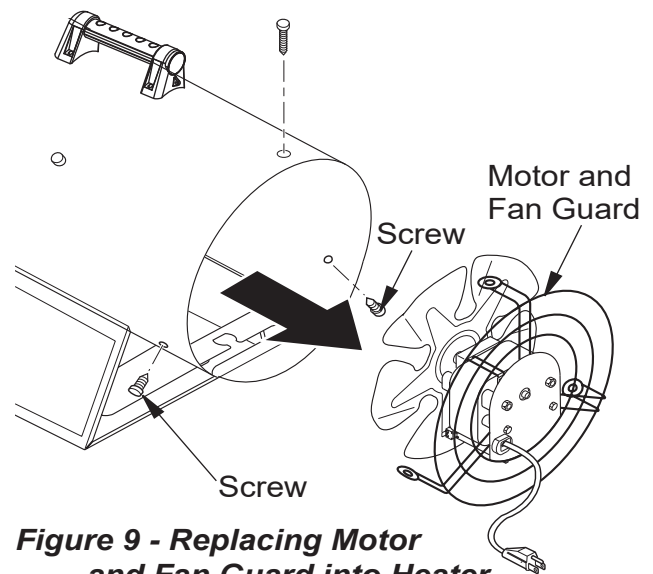

Figure 9 - Replacing Motor and Fan Guard into Heater
8. Place the motor and fan guard into the rear of the heater shell. Make sure power cord is properly located (see Figure 9).
9. Insert three screws through the heater shell and into fan guard (see Figure 9). Tighten screws firmly.
5. Place the motor and fan guard into the rear of the heater shell. Make sure power cord is properly located (see Figure 9, page 8).
6. Insert three screws through the heater shell and into fan guard (see Figure 9, page 8). Tighten screws firmly.